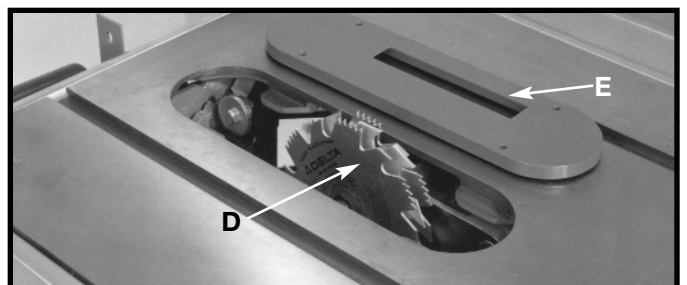

Fig. 64
2. Attach the dado head set (D) Fig. 64, to the saw arbor. **NOTE: THE OUTSIDE ARBOR FLANGE CAN NOT BE USED WITH THE DADO HEAD SET, TIGHTEN THE ARBOR NUT AGAINST THE DADO HEAD SET BODY. DO NOT LOSE THE OUTSIDE ARBOR FLANGE. IT WILL BE NEEDED WHEN REATTACHING A BLADE TO THE ARBOR.**
⚠ CAUTION THE ACCESSORY DADO HEAD SET TABLE INSERT (E) FIG. 64, MUST BE USED IN PLACE OF THE STANDARD TABLE INSERT.